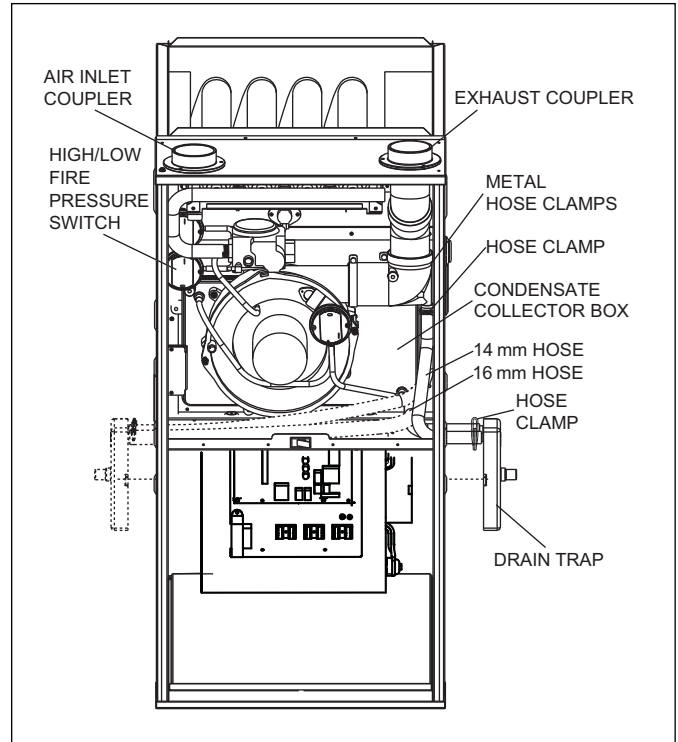

Figure 15 Upflow Installation, Top Venting
5. Connect $\Phi 16$ mm hose between condensate collector box and drain trap and connect $\Phi 14$ mm hose between inducer drain port and drain trap. (see Fig. 15).